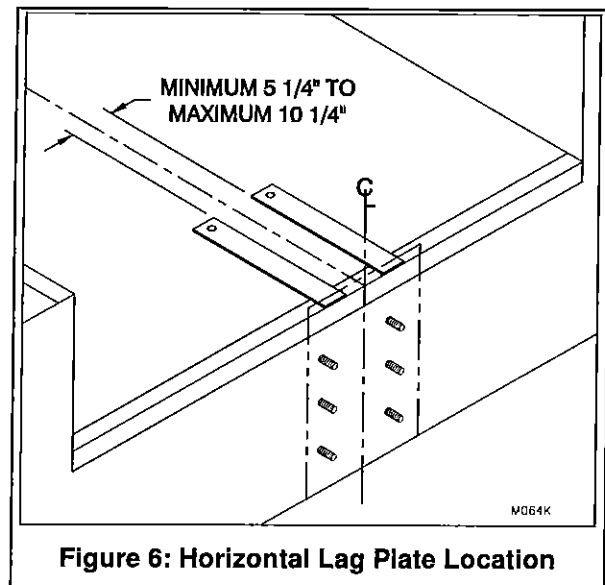

Figure 6: Horizontal Lag Plate Location
- b) The horizontal lag plates must be positioned centered behind the back plate and parallel to each other; not more than 10 1/4" apart and not less than 5 1/4" apart (This variation allows for avoiding any shims which may be present under the front angle). See Figure 6, page 9.